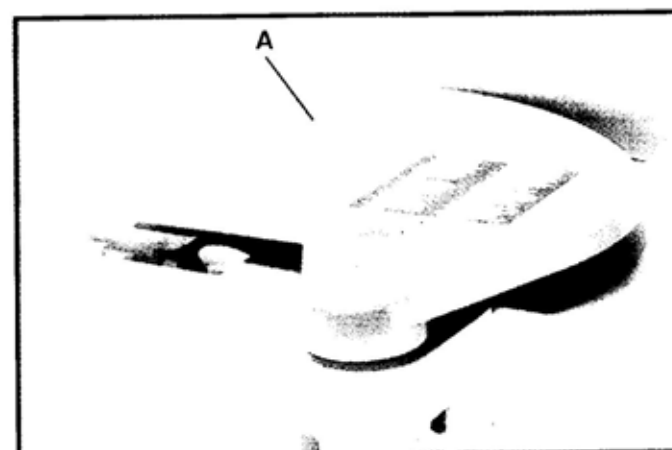

Fig. 40
2. Remove set screw holding the cutterhead guard (A) Fig. 40, in position and remove cutterhead guard.